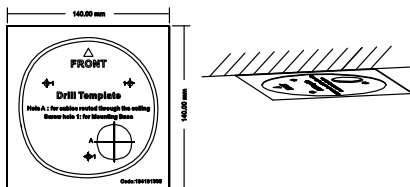

Figure 2-47 Attach the Drill Template
2. Drill a cable hole in the ceiling according to the circle A on the template if you want to route the cables through the ceiling, as shown in Figure 2-47.